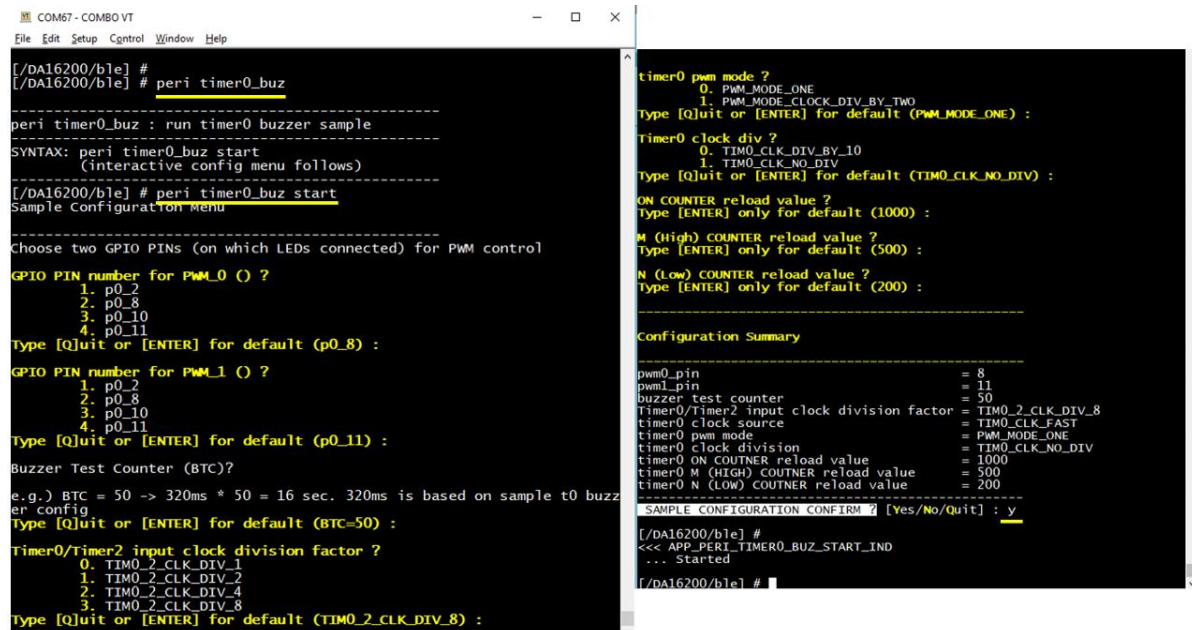
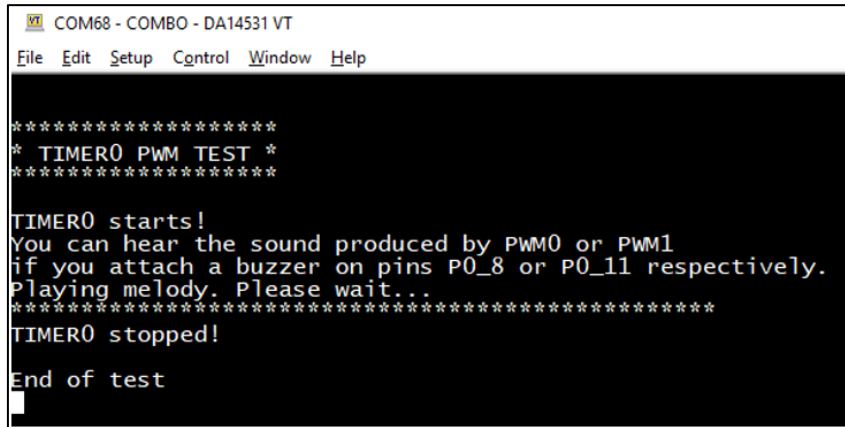

Figure 31: Peri Timer0_buz 1/2
Figure 32: Peri Timer0_buz 2/2
2. Run command as in Figure 31 and Figure 32.